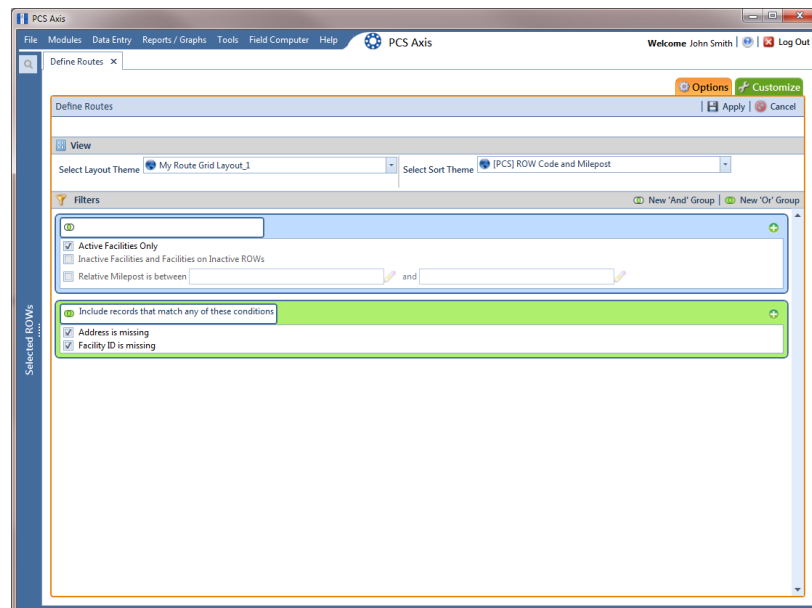

Figure 8-69. Options
- 12 To apply one or more filters to the selected route and the *Define Routes* grid (Figure 8-69):